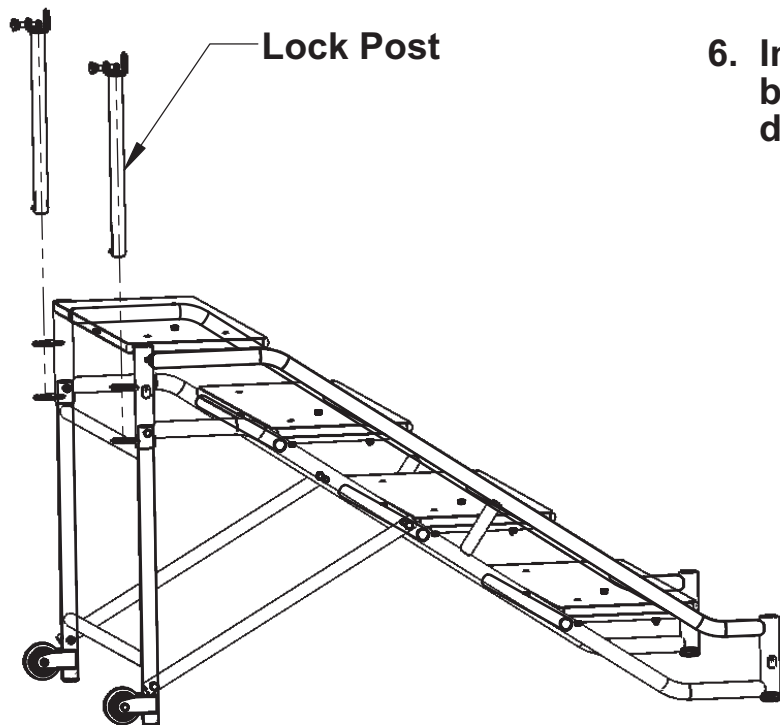

Fig.4
6. Insert lock post into both ring yokes by pressing down the post end spring dimple. (Fig. 4)